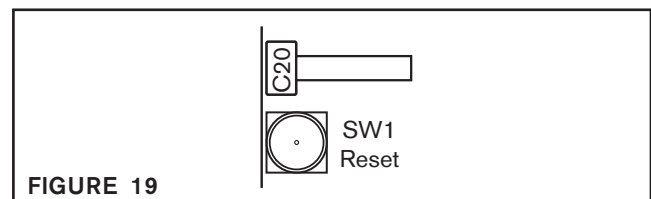

FIGURE 19
**NOTE:** Factory Reset can be entered two ways: by either holding the Setup Key during power up, or by holding the Setup Key during Reset. When using the latter method, press and hold the Setup Key first; then, press and release the Reset Push-button. After the indicators flash, release the Setup Key (See Figures 19 and 20).